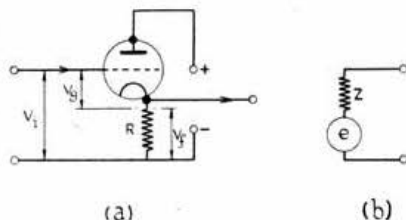
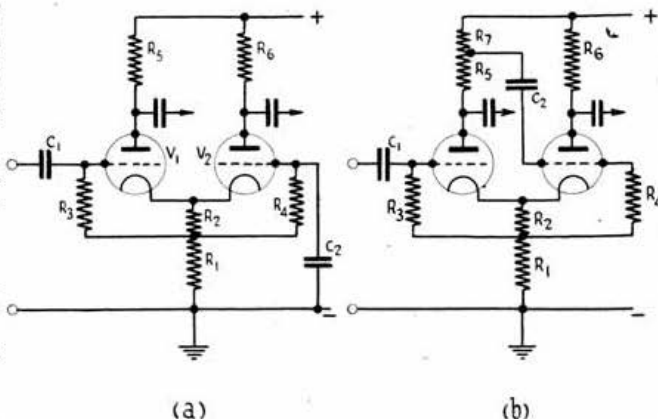

Fig. 7.
Fig. 8.
Fig. 7 (a) shows the basic circuit of a triode arranged as a cathode follower. The operation of this circuit has been fully dealt with elsewhere, but it is included here as an example of a single stage amplifier in which the whole of the output voltage (which in this case is taken from the cathode) is fed back to the grid circuit. In equation (4)  $\beta$  can therefore be given the value of unity, in which case
The equivalent circuit to the cathode follower is as in Fig. 7 (b) where,
If the load on the cathode follower is not suitable for carrying the D.C. cathode current of the valve the resistance  $R$  of Fig. 7 (a) is inserted. In order not to load the cathode circuit, its value should be considerably greater than the cathode impedance of the valve ( $1/g$ ). It may sometimes produce too much grid bias on the simple circuit shown, in which case a grid condenser and leak can be used with the lower end of the leak tapped down  $R$  to a point of suitable biasing potential.
A method of phase-splitting which is a descendent from the cathode follower is shown in Fig. 8 (a).(22) The two valves  $V_1$  and  $V_2$  have their cathodes joined to a common cathode resistance which is made very large compared with the cathode impedance ( $1/g$ ) of the valves. The cathode resistance consists of  $R_1$  and  $R_2$  in series, so that a convenient potential can be tapped off at this junction for grid bias through the grid leaks  $R_3$  and  $R_4$ . Two similar resistance  $R_5$  and  $R_6$  are connected to the anodes from which a push-pull output is to be obtained. Since the circuit is completely symmetrical, both valves will draw the same anode current. The "single-ended" input has its "live" side connected to the grid of  $V_1$  through the condenser  $C_1$ , the grid of  $V_2$  being connected to earth via the condenser  $C_2$ . Reverting to the cathode follower of Fig. 7 it might be thought that  $V_1$  would behave exactly similarly with its cathode having the same signal on it as its grid. The cathode of  $V_1$  is, however, loaded not only by  $R_1$  and  $R_2$  which are very high compared with the cathode impedance, but also by the cathode impedance of  $V_2$ . Assuming that both valves are similar, the cathodes will acquire a signal voltage equal to one-half of that applied to the grid of  $V_1$ , since the cathode impedance load of  $V_2$  is the same as the internal cathode impedance of the driving valve  $V_1$ .
Now considering the A.C. signal voltages only, if a voltage of  $+V$  is applied to the grid of  $V_1$ , both the cathodes will be at  $+V/2$  and the grid of  $V_2$  is earthed. Thus, relative to the cathodes, the grid of  $V_1$  is at  $+V/2$  while the grid of  $V_2$  is at  $-V/2$ . In other words a balanced or push-pull input has been produced which will produce a push-pull output on the anodes. As shown in Fig. 8 (a) this output would be taken to a push-pull output stage, but, if desired, a push-pull output transformer could be used to supply the load direct from the anode of  $V_1$  and  $V_2$ .
Fig. 8 (b) shows a phase-splitting stage in which the grid of the second valve is driven from a tap on the anode resistance of the first, as in the paraphase circuit. The cathodes are, however, connected to a common cathode resistance as in Fig. 8 (a). This will
A similar circuit is given in Fig. 9 (b) except that the cathodes of  $V_3$  and  $V_4$  are connected to a common cathode resistance  $R_1$  which is not by-passed, as in Fig. 8. The grid of  $V_3$  is driven from the cathode voltage of  $V_3$  and  $V_4$ . Thus the unbalance of cathode voltage is kept to a minimum by means of the feedback voltage to  $V_2$ .